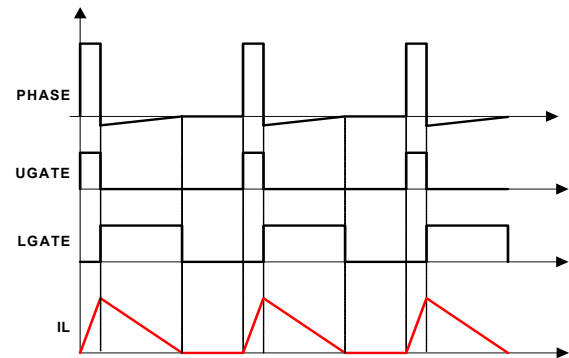

FIGURE 28. DIODE EMULATION
The R3 modulator can operate in Diode Emulation (DE) mode to increase light-load efficiency. In DE mode the low-side MOSFET conducts when the current is flowing from source-to-drain and does not allow reverse current, emulating a diode. As shown in Figure 28, when LGATE is on, the low-side MOSFET carries current, creating negative voltage on the phase node due to the voltage drop across the ON-resistance. The IC monitors the current by monitoring the phase node voltage. It turns off LGATE when the phase node voltage reaches zero to prevent the inductor current from reversing the direction and creating unnecessary power loss.
If the load current is light enough, as Figure 28 shows, the inductor current reaches and stays at zero before the next phase node pulse and the regulator is in Discontinuous Conduction Mode (DCM). If the load current is heavy enough, the inductor current never reaches 0A and the regulator is in CCM although the controller is in DE mode.